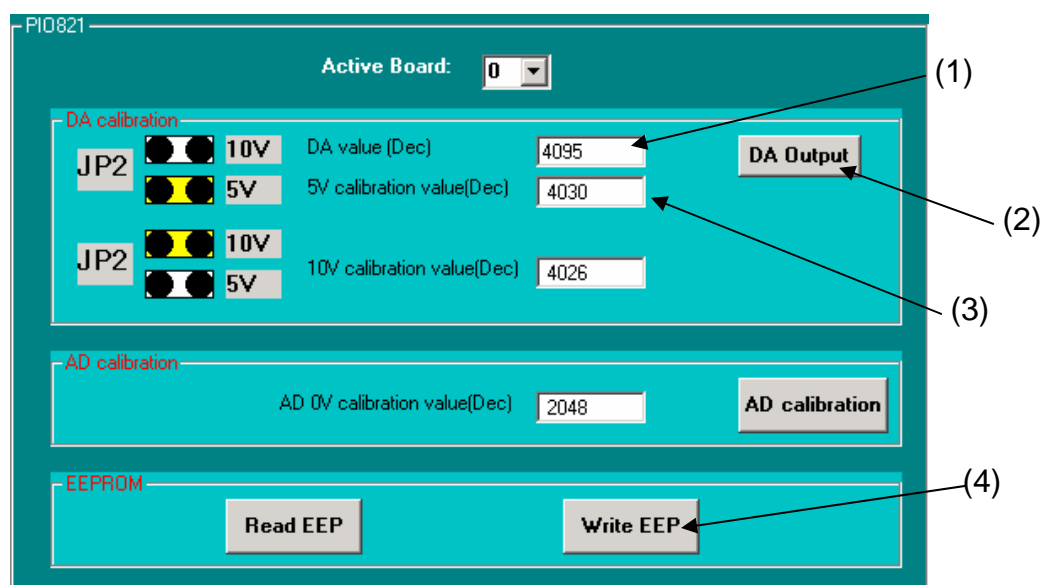

Figure 3.2.
- Step 3. If you want to calibrate the DA, for example, then let the "DA value" be set at 4095, as shown in Figure 3.2 (1).
- Step 4. Click the "DA Output" button and then use particular multi-meter to measure the analog output, as shown in Figure 3.2 (2).
to change the output value (for example: 4093, 4092,...) and change the output voltage until its value is equal to the allowed maximum voltage output value, as shown in Figure 3.2(3).
- Step 6. If the analog output is equal to the maximum allowed analog output level, please key in the calibration value to “5V calibration value” in the textbox and Click the “Write EEP” button. The DA calibration process is finished for the setting range of analog output. It is shown in Figure 3.2 (4).